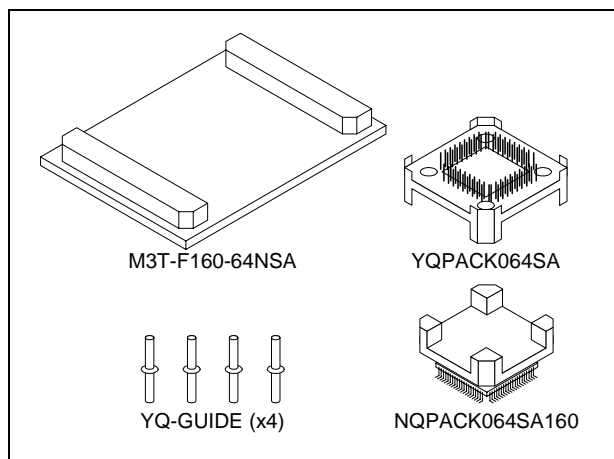

Figure 1 Package components of the M3T-F160-64NSA
2. Package Components (See Figure 1)